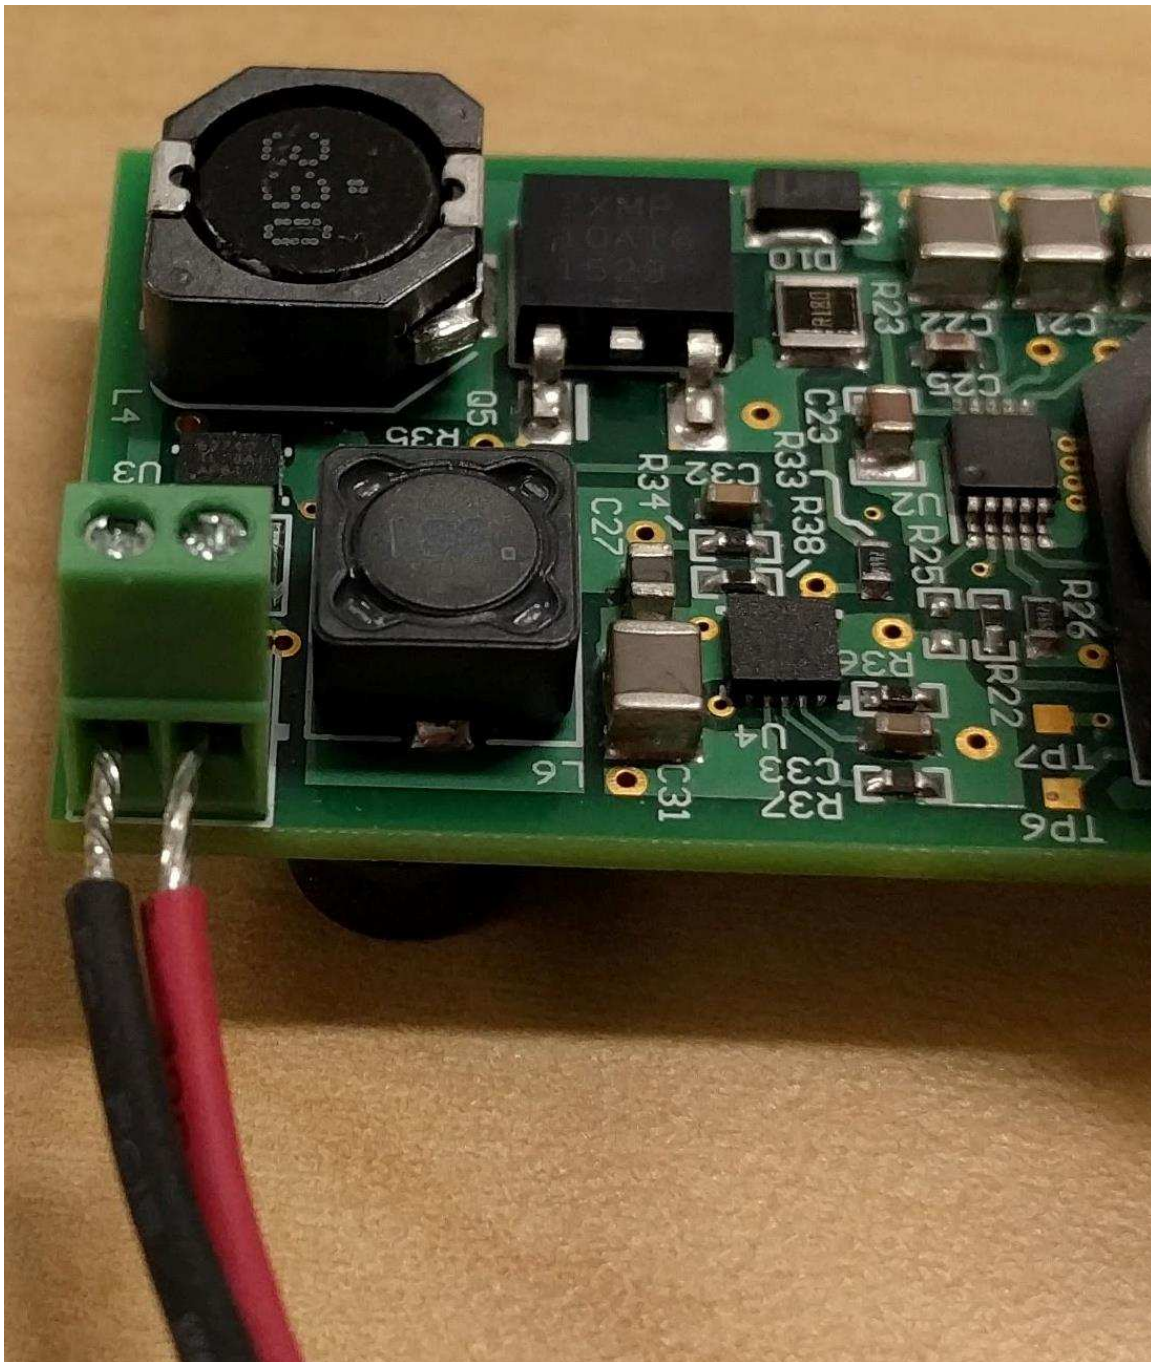

図 21. TIDA-01463 LED Output Connection on PCB
2. Connect the LED light to the output terminal, J7. If unsure about the polarity of the terminals, check the bottom of the PCB. The right terminal (+) is connected to the trace, and the left terminal (-) is connected to the ground plane (see Figure 21).